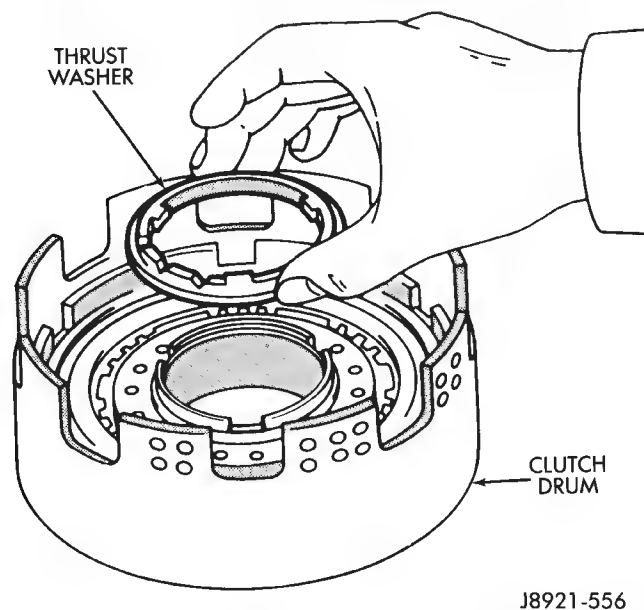

Fig. 2 Removing Clutch Drum Thrust Washer
- (2) Remove clutch drum thrust washer (Fig. 2).